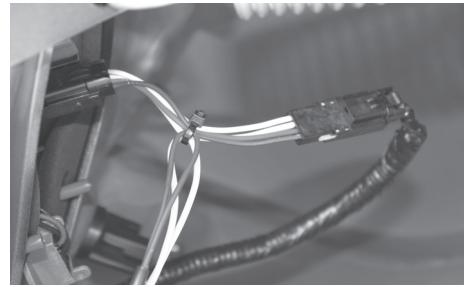

Figure 4
4. Starting on driver's side route RV harness with connectors containing Yellow wires behind felt liner to taillight location. Separate vehicle connector and position connectors between separated vehicle harness connectors. Press connectors firmly into vehicle connectors until they lock into place shown in **Figure 4**. Pull on connectors to ensure the locks are engaged.